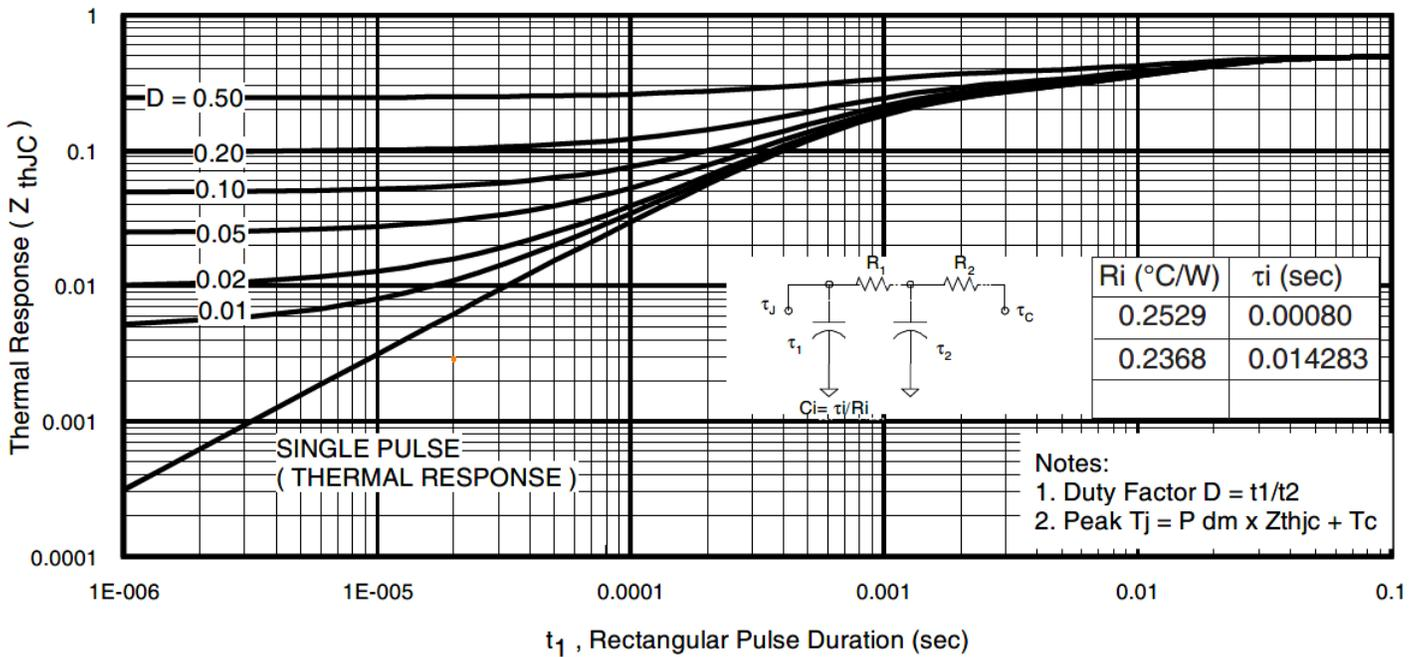
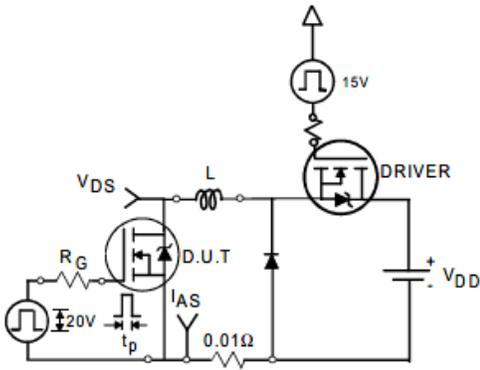

Fig 11. Maximum Effective Transient Thermal Impedance, Junction-to-Case
Fig. 12a. Unclamped Inductive Test Circuit
- ① Repetitive rating; pulse width limited by max. junction temperature. (See fig. 11).
- ② Limited by T_{Jmax} , starting $T_J = 25^\circ\text{C}$, $L = 0.12\text{mH}$, $R_G = 25\Omega$, $I_{AS} = 95A$, $V_{GS} = 10V$. Part not recommended for use above this value.
- ③ Pulse width $\leq 1.0\text{ms}$; duty cycle $\leq 2\%$.
- ④ $C_{oss\ eff.}$ is a fixed capacitance that gives the same charging time as C_{oss} while V_{DS} is rising from 0 to 80% V_{DSS} .
- ⑤ Limited by T_{Jmax} , see Fig.12a, 12b, 15, 16 for typical repetitive avalanche performance.
- ⑥ This value determined from sample failure population. 100% tested to this value in production.
3. Equation below based on circuit and waveforms shown in Figures 12a, 12b.
$Z_{thJC}(D, t_{av})$ = Transient thermal resistance, see Figures 11)